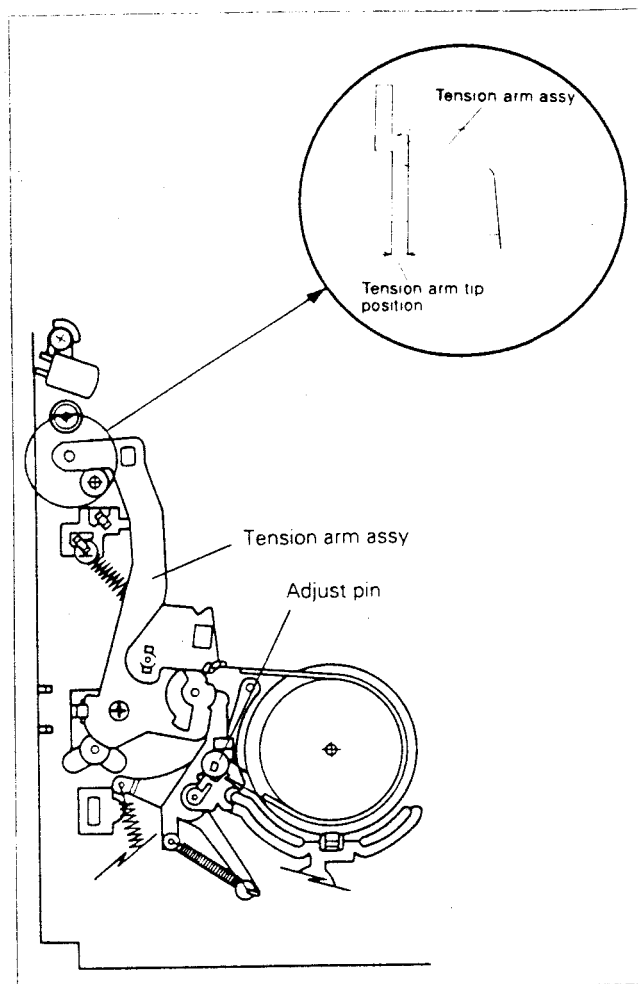

Fig. 2-4-9
2) Turn the eccentric adjust pin to position the mark of the chassis with the tension arm tip as shown Fig. 2-4-9.